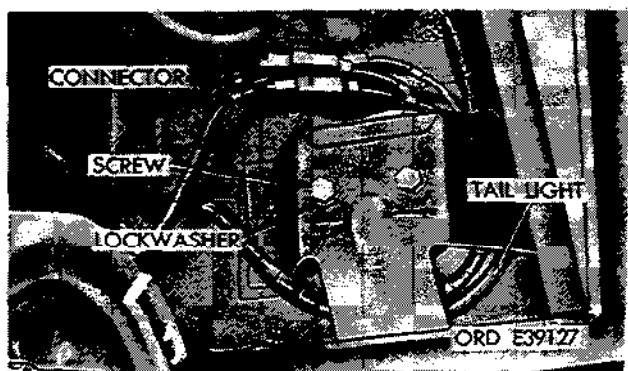

Figure 2-208. Disconnect cable connectors (M151, M151A1, M151A1C and M718).
(1) Disconnect three cable connectors. Remove two screws and lockwashers securing the taillight assembly (fig. 2-208).